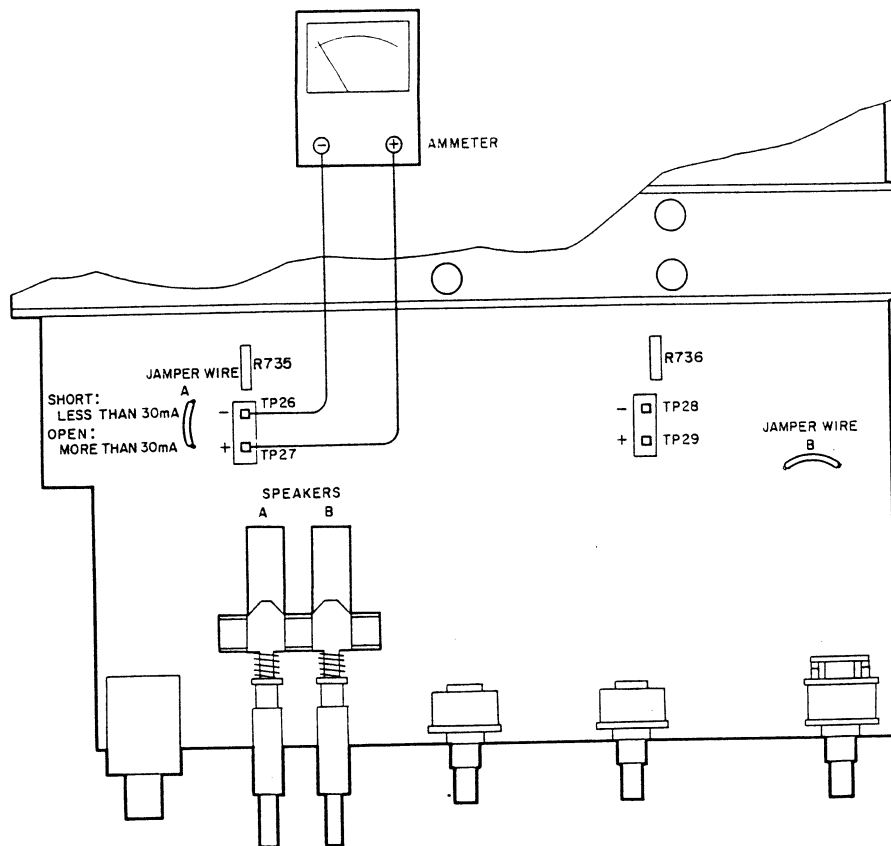

Fig. 6 Main Amp. Reg. P.C Board 4631380
1. IDLING CURRENT ADJUSTMENT (Refer to Fig. 6)